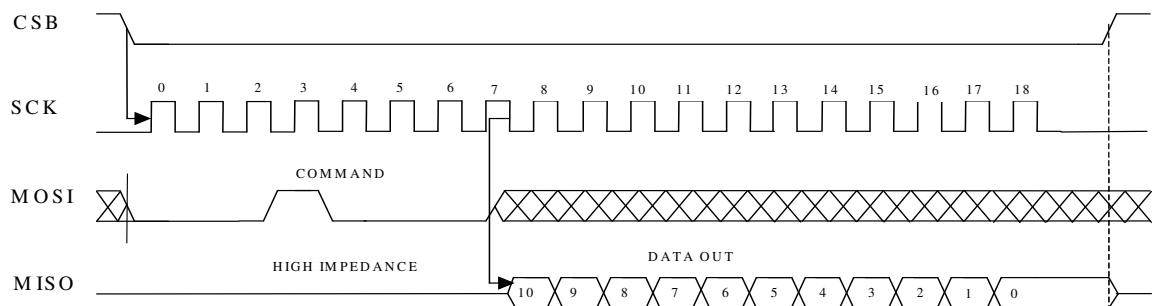

Figure 7. RDAX command and data transmission over the SPI
**Read X-channel acceleration (RDAX):** RDAX command provides access to AD converted X-channel acceleration signal stored in acceleration data register X. During normal operation acceleration data register X is loaded in every 150  $\mu$ s, and the load operation is disabled whenever the CSB signal is low, hence CSB has to stay high at least 150  $\mu$ s prior the RDAX command in order to guarantee correct data. Data output is an 11-bit digital word, which is feed out MSB first and LSB last. (See Figure 7).